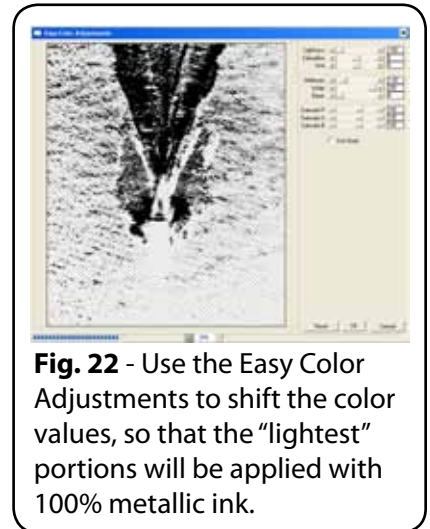

Fig. 22 - Use the Easy Color Adjustments to shift the color values, so that the “lightest” portions will be applied with 100% metallic ink.
33. The **Easy Color Adjustments** dialog will open (Fig. 22).